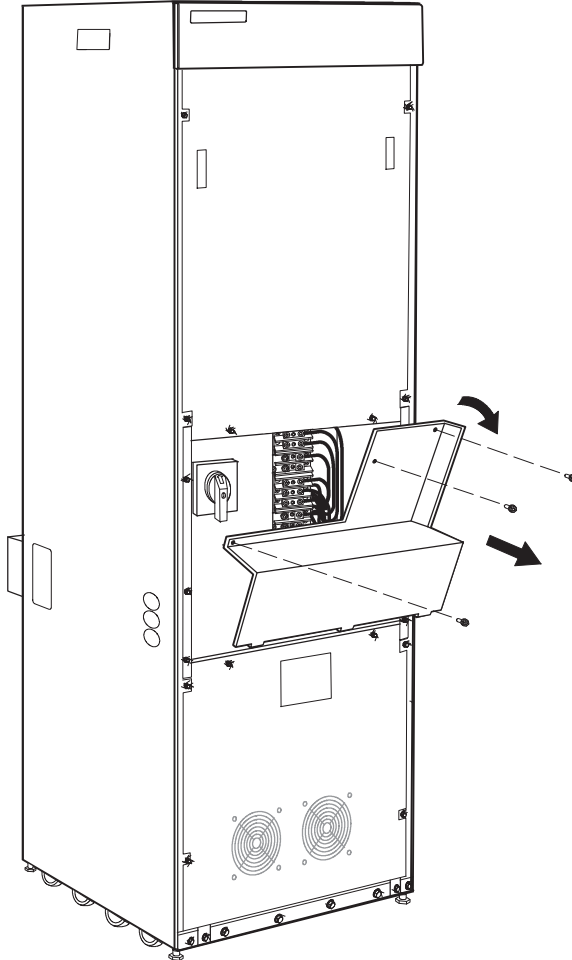

Figure 13. Removing the Options Cabinet Wiring Access Cover
12. Remove the Options Cabinet wiring access cover and retain (see Figure 13).